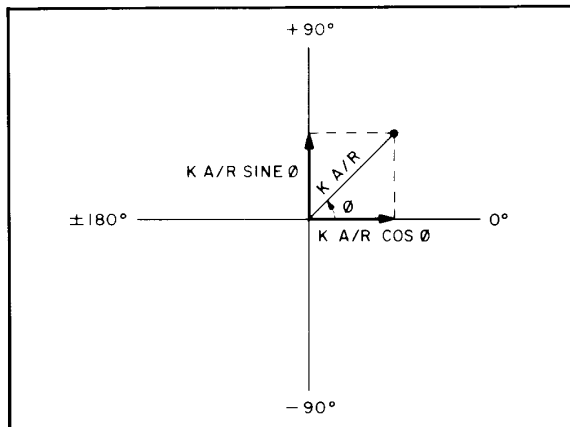

Figure 8-80. Polar Display
For a polar display, the 8754A displays a polar plot of the relative magnitude and phase of the A and R input signals. Instead of displaying magnitude, or phase, versus frequency, the polar display represents magnitude versus phase, where magnitude is the radial distance (M) from the center of the display and phase is the angular rotation (θ) from the horizontal zero degree axis. The magnitude and phase of the polar signal must be resolved into X (horizontal) and Y (vertical) components as shown in Figure 8-80. These X and Y signals are applied to the horizontal and vertical deflection plates producing a dot on the CRT representing the arrowhead of the vector.